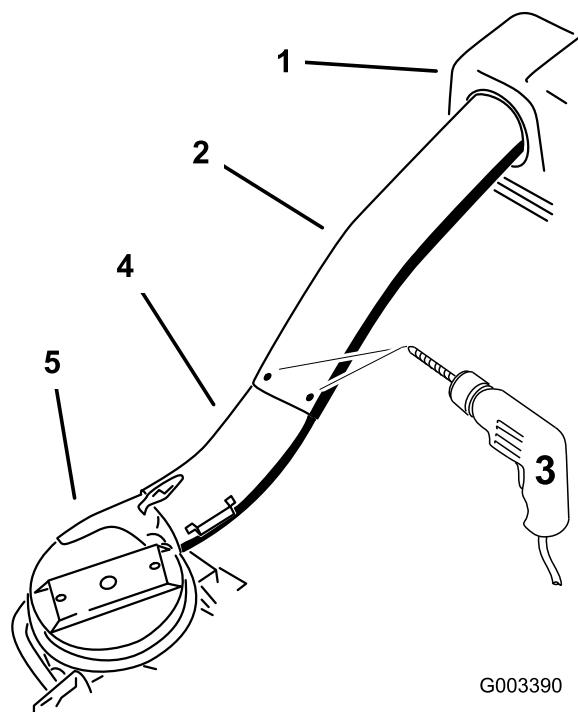

Figure 44
9. Using the 3 holes or indentations in the upper tube as a template, drill 3 holes (7/32-inch diameter) where the upper and lower tubes join together (Figure 44).